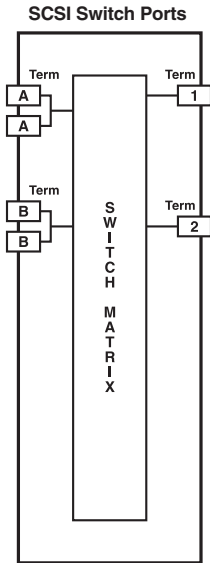

Figure 2-1. SC121A block diagram.
Ports A and B are fully bidirectional to ports 1 and 2 (see Figures 2-1 through 2-3). You determine where to connect computers, host adapters, and peripherals. In general, if daisychained ports are required for connection to external peripherals, use ports A or B.
- 3. In Figures 2-1 and 2-3, "Term" shows where terminators should be installed.**